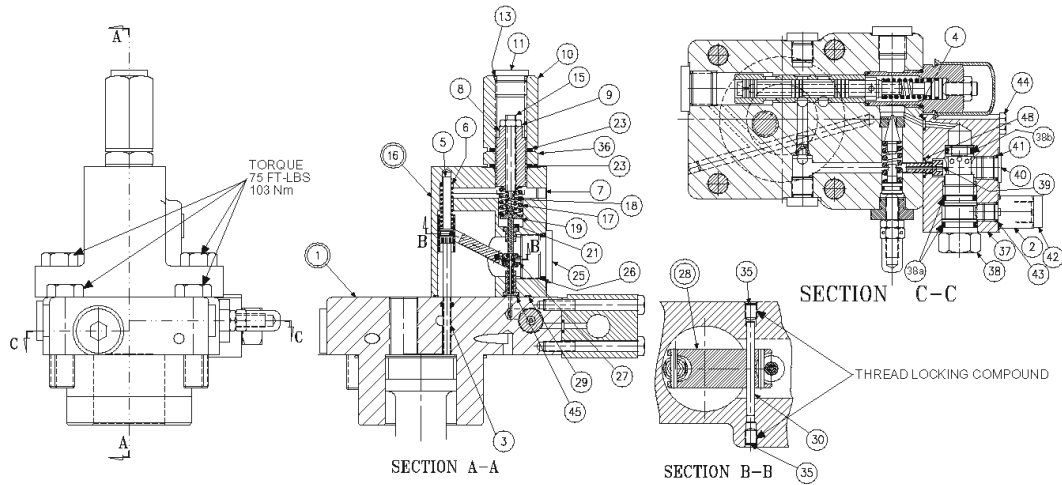

FIGURE 13
1. Install Avseal plugs (9) and .047", 1,19 mm. orifice (19) in body.
2. Press seat (10) into bore squarely against shoulder in bore.
3. Install plug (12) and spool (18) into bore as shown. Install spring (11) over end of spool. Install O-ring (6) on seal piston (16). Lubricate and install into plug (15). Install plug (15) into cap. Install screw (3), nut (4) and cover (17).
4. Install O-ring (6) on seal piston (5).
5. Lubricate O-ring and install cone (8), spring (7) and seal piston into bore in cap (1), being careful that cone enters seat (10). Install remaining parts in body (1).
6. Install O-rings (29-a) and (29-b) on valve (29). See Figure 13, page 40. Observe that backup ring on inside groove is toward the outside, the one on the middle groove is toward the inside, and the one on the outside groove is toward the outside. Lubricate and install valve (29) in block (28), being careful to avoid damaging the O-rings. Torque to 50 lb.·ft., 67,8 Nm.
7. For the P110 only, install O-ring (32) on adapter (35). Install adapter in block (28). Install plug (31) in adapter (35). For the P07 only, install O-ring (32) on plug (31). Install plug (31) in block (28).
8. Note proper location for cap on pump (page 24). Install O-rings on interface between cap and pump control pad. Install O-rings (26) in block (28).
PARTS LIST FOR FIGURE 13
1. See Figure 13. Remove 2 screws holding torque limiter body (16) to cap assembly (1).
2. Remove all parts from torque limiter body (16) except pin (30) and arm assembly (28). It is not necessary to remove these parts unless broken or worn. Examine parts for wear or damage.
3. Remove screw (3). Examine head for excessive wear, and body for smooth sealing surface with O-ring.
5. Remove modulating valve (38) from body (37). Remove body (37) from cap assembly (1). Note plug (40) must be removed to remove special screw (39). Remove cap assembly (1).
8. See Figure 13. Install block (37) on cap (1) with O-rings (4) and (48). Use special screw (39) through the block.